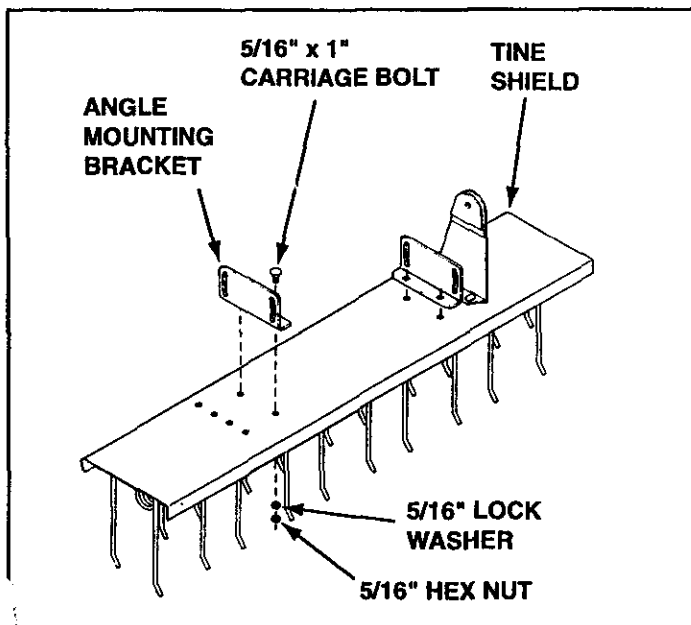

FIGURE 2
- Assemble angle mounting brackets to tine shield using four 5/16" x 1" carriage bolts, 5/16" lock washers and 5/16" hex nuts. **Tighten.** See figure 2.